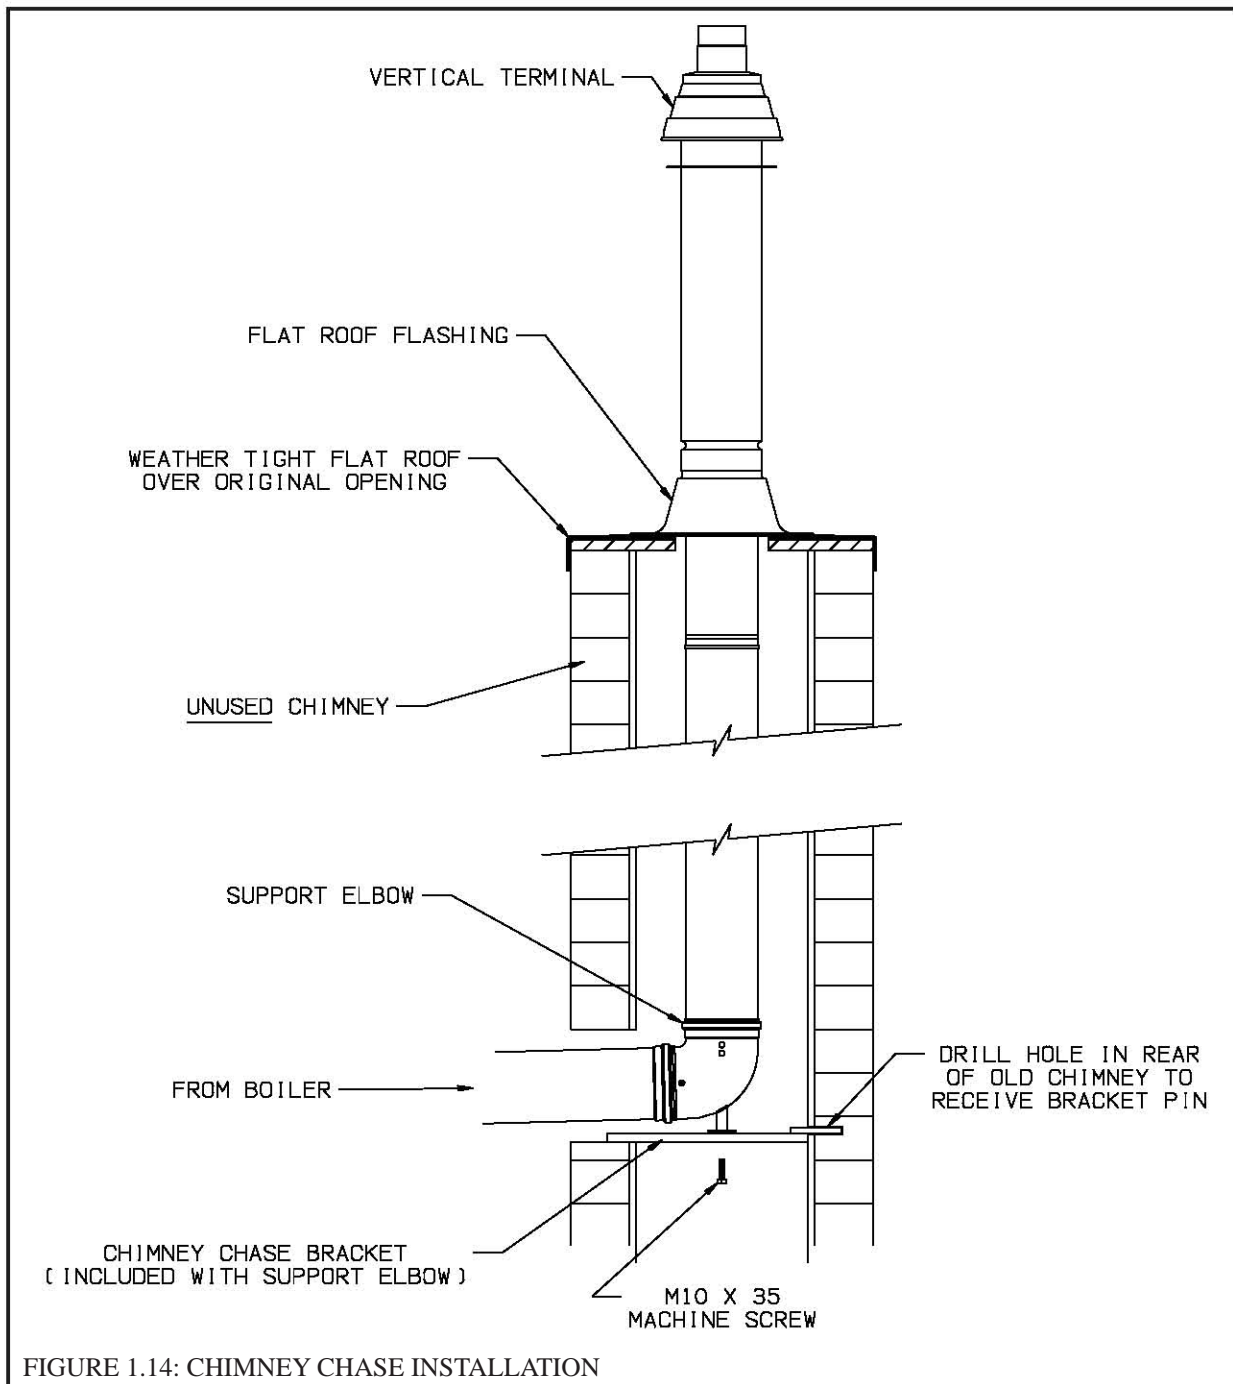

FIGURE 1.14: CHIMNEY CHASE INSTALLATION
- 7) **Chimney Chase Installation** - A vertical vent system can be installed in an unused masonry chimney. This installation is similar to other vertical installations with the following exceptions (Also see Figure 1.14):